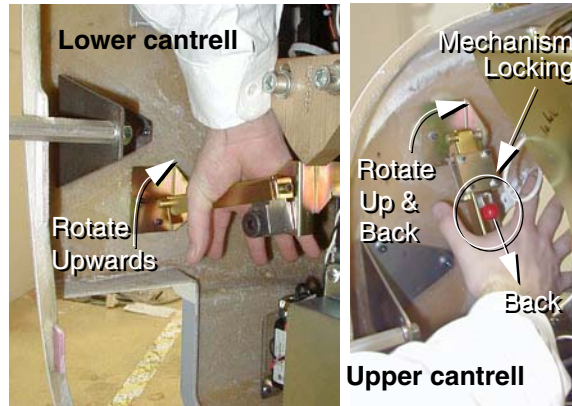

Figure A-9 Releasing cover brackets
- 1.) Using steady but firm pressure, lift each of the lower cantrell brackets from their associated retainers (see Figure A-9).